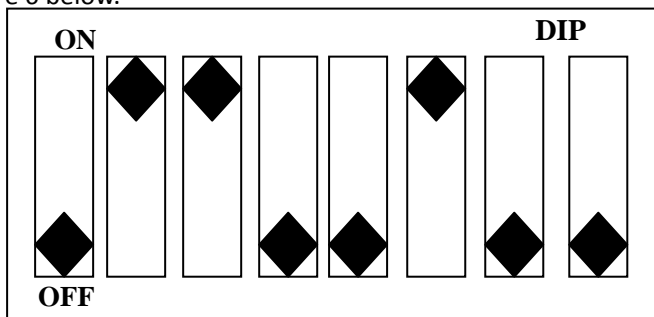

Figure 6
C. “DIP” Switch: P.C. board is equipped with 8 “DIP” switches, which do not need to be adjusted in normal operation, all switches are set to OFF position except No.2, No.3 and No.6 switch to ON position, as shown in Figure 6 below.